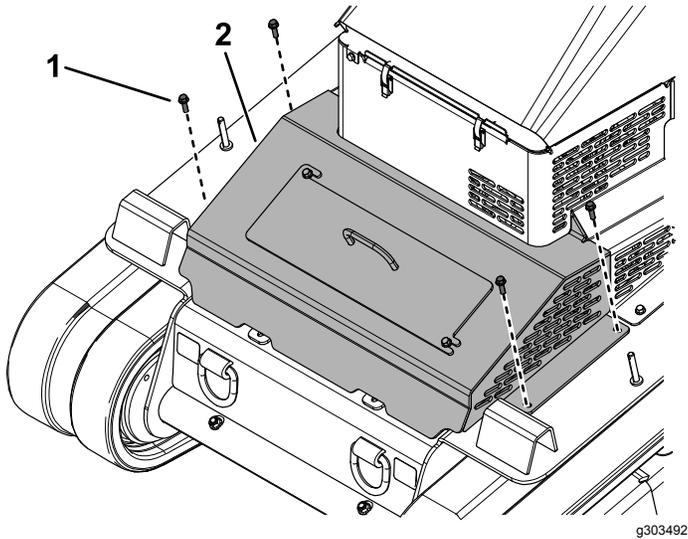

Figure 44
2. Remove the 4 bolts securing the cover assembly to the machine (Figure 44).
1. Bolt (4)
3. Remove the cover assembly (Figure 44).